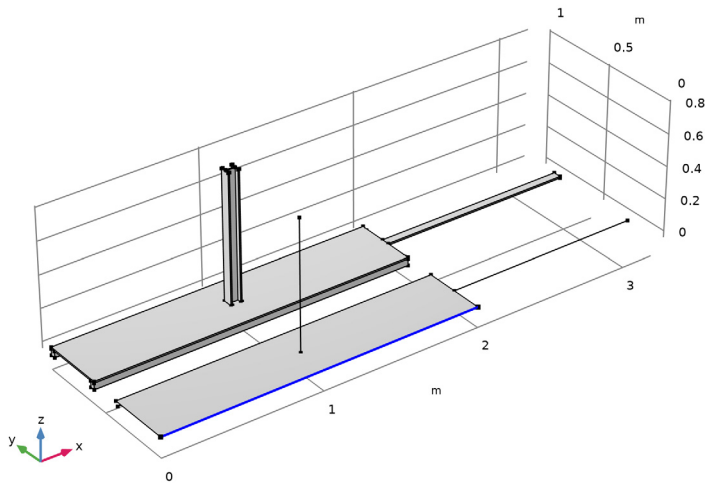
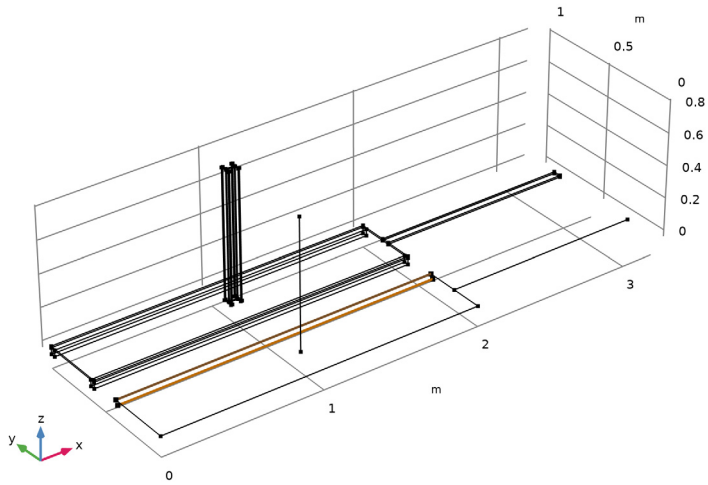

Figure 5: Longitudinal shell-beam connection with common edge.
Figure 6: Longitudinal shell-beam connection with separate edge.
- The longitudinal stiffening beams are connected to the long edges of the plate. Two different modeling possibilities are used. On one side, there is a separate edge at the center of the beam (Figure 6), whereas on the other side, the edge of the shell is also used for the beam (Figure 5), and the actual location of the beam is specified using the offset property in the settings for **Shell-Beam Connection**.